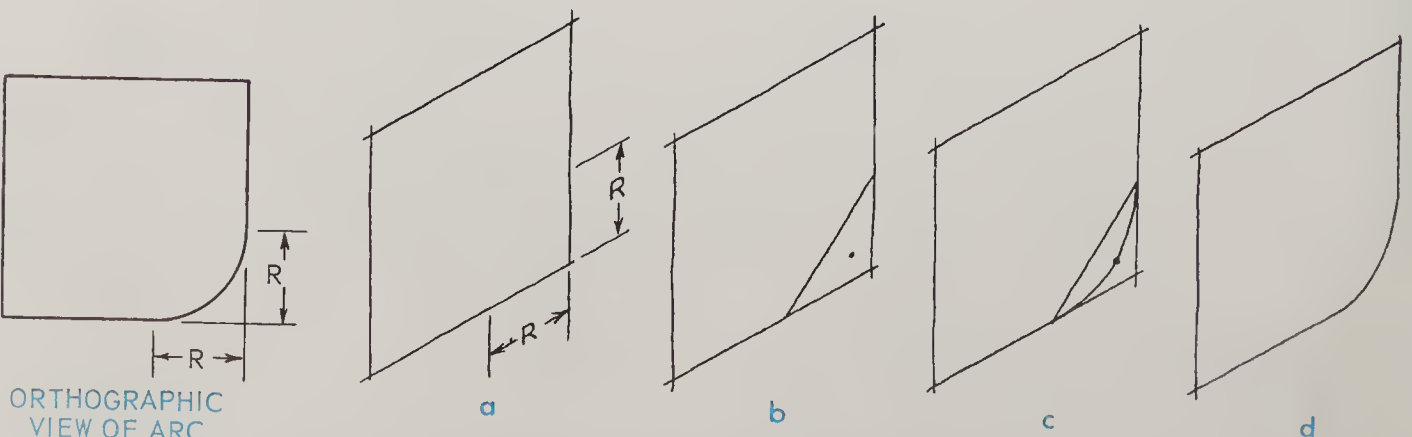

Fig. 13-6. Sketching an isometric arc.
1. Lay off the radius of the arc from the corner, Fig. 13-6(a).
2. Draw a slant line connecting the two points, forming a triangle, Fig. 13-6(b).
3. Locate midpoint of triangle and sketch an arc through this point to join smoothly with sides, Fig. 13-6(c).
4. Erase construction lines and darken arc, Fig. 13-6(d).